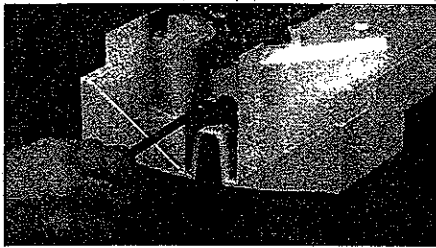

Figure 79
2. Remove the two (2) 6-32x3/8" Phillips pan-head screws for the transducer, and pull out the transducer and transducer cap from the front enclosure as illustrated in Figure 79.